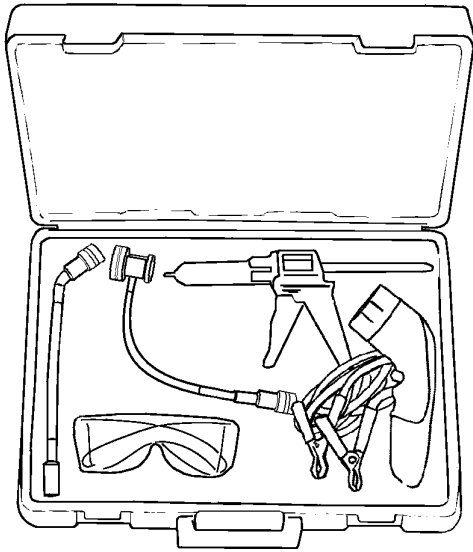

Figure 48 Ultraviolet Lamp Kit
An alternate method to electronic leak testing is ultraviolet light. The desiccant located in the filter-drier contains a phosphor dye that will produce a bright yellow-green trace at the leak, when illuminated by an ultraviolet (UV) lamp. This dye is also included in replacement filter-driers. The kit illustrated in Figure 48 provides the UV lamp used to illuminate the suspected leaks. The kit also contains connection hoses and a dye injector, as well as, eyeglasses used to enhance the effect of the UV light on the dye. A UV dye cleaner should be used to clean the HVAC system connections after repairs have been made.